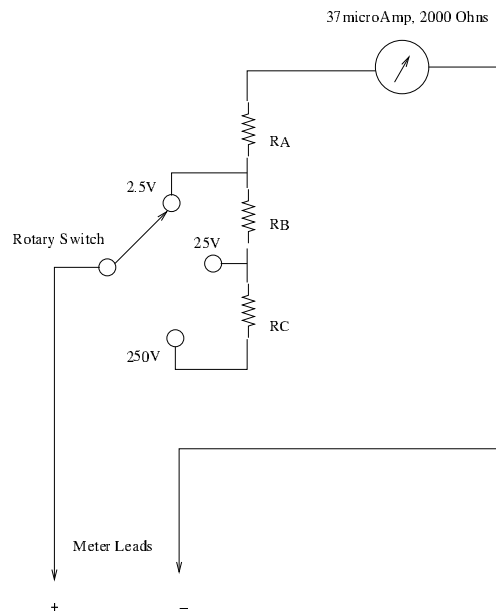

Figure 2.3.: Voltmeter configuration.
A series resistor R_{series} is placed as shown in figure 2.3. The value of resistor can be found from Ohm's law and equation 2.2.
This allows the measurement of a DC voltage of V_{max} . Commonly several series resistances are implemented to make the meter more flexible as in figure 2.3.
1. Calculate the proper values of RA, RB, and RC in figure 2.3, so that the meter moves to full-scale deflection when the meter leads are connected to 2.5V, 25V, and 250V.